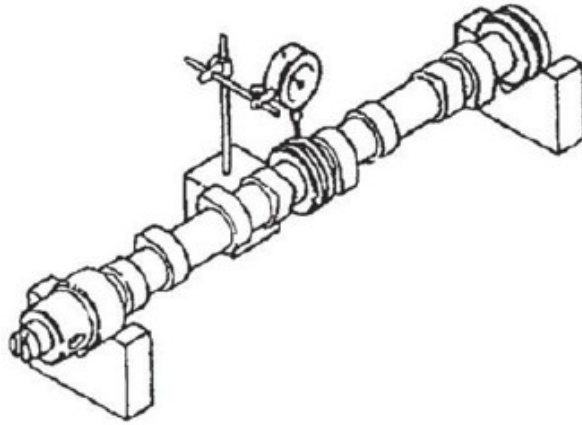

Figure 116.
1. Use V-blocks and a dial indicator to check camshaft bend (Figure 116). Place the indicator on the center bearing journal.